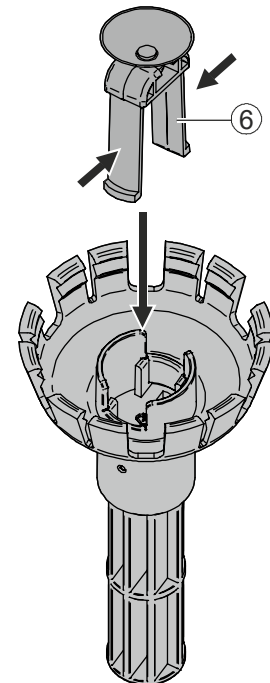

Fig. 3
1. Secure suction cup (6) in detector exchanger (Fig. 3).
2. Secure detector dust cap (7) on suction cup.